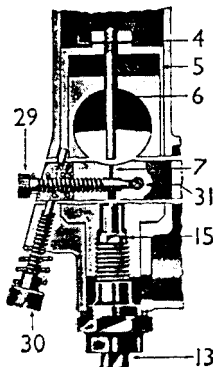

Fig. 4.
(a) This fig. 4 is three diagrammatic sections of the carburettor to show the throttle adjusting screw (30), and the pilot air adjusting screw.
The taper needle position in relation to the throttle opening can be set according to the mixture required by fixing it to the throttle valve with the jet needle clip in a certain groove (see figure 4 above), thus either raising or lowering it. Raising the needle enriches the mixture and lowering it weakens the mixture at throttle openings from quarter to three-quarters open (see figure 5, page 7). The needles are marked with the letters B, C, or D. B type are fitted in the 375 Carburettor, C type in the 376 Carburettor, and D type in the 389 Carburettor. The needles in some cases are marked with a number in addition to a letter.